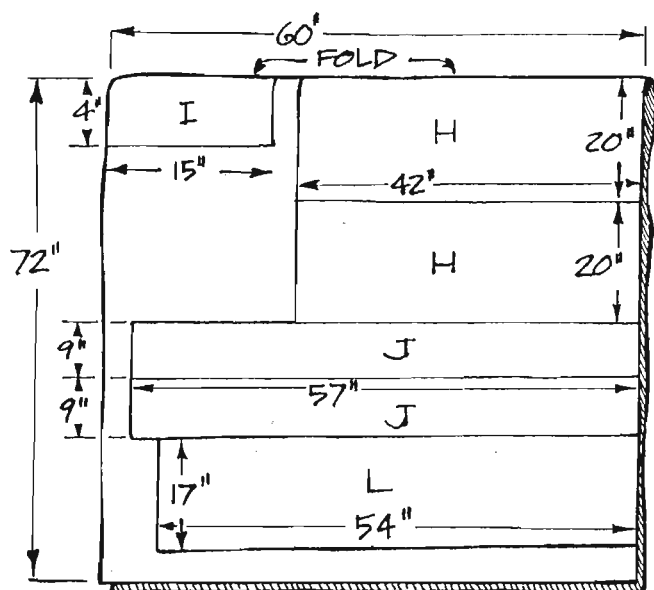

Figure 3
1. The first step is to sew a gathered "sock" for each of the legs. A fabric-cutting diagram is shown in *Figure 3*. All seams are sewn 1 inch wide. Cut four leg panels (H) from the upholstery fabric, each measuring 20 by 42 inches.
2. Cut two bottom panels (I) from the upholstery fabric, each measuring 4-1/4 by 15 inches.